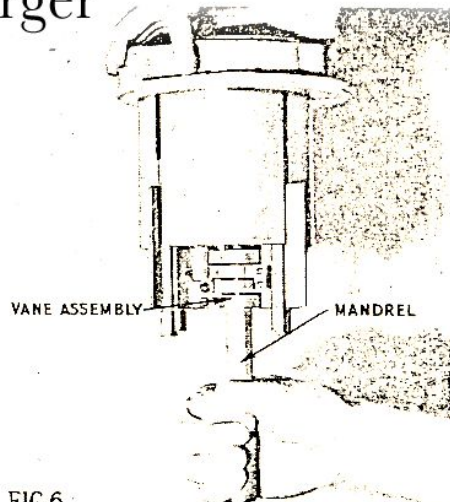
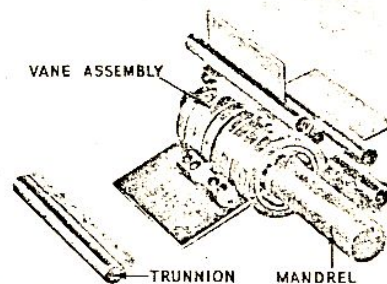

FIG. 6.
FIG. 7.
- A special mandrel to the dimensions given further on is essential. Place mandrel against end of vane shaft, invert (Fig. 6) and tap end of mandrel on bench when the vane assembly will slide onto the mandrel on which it should be retained until reassembly, any shims being carefully kept until reassembly. The trunnions will come out with the vane assembly and if removed from the vanes (Fig. 7), should be identified each with its own vane so that on reassembly each trunnion may be replaced on its original vane with all relative bearing surfaces re-positioned as prior to dismantling. Under no circumstances should the vane assembly be dismantled or removed from the mandrel. No attempt should be made to replace one or more vanes or ballraces, as owing to the accuracy and balance required we only supply a new vane assembly complete and do not supply separate parts for this assembly.